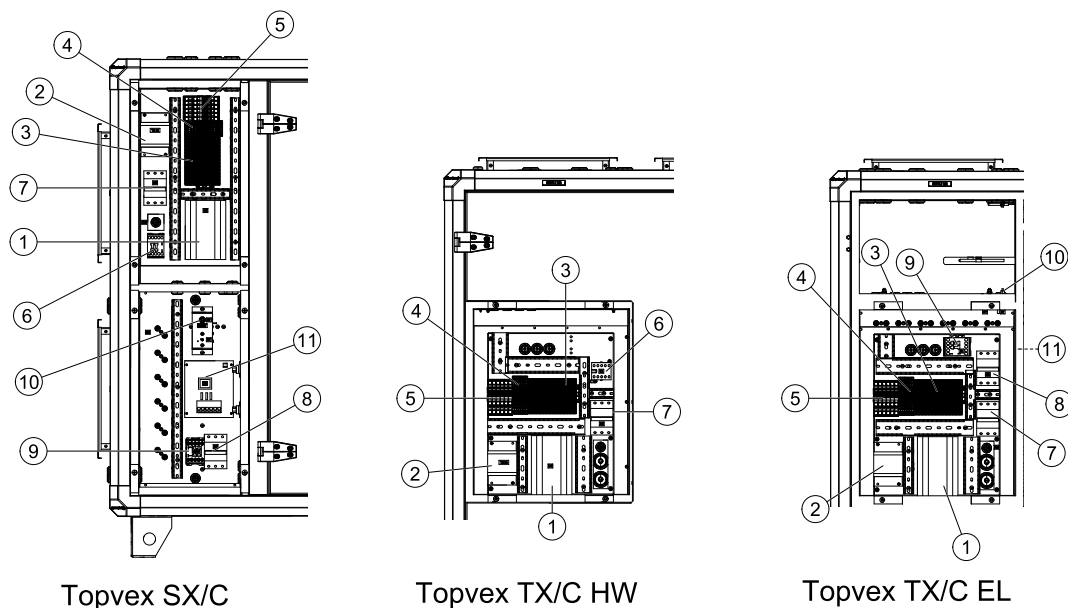

Рис. 2
In units with built in electrical heater the heating rods are located after the supply air fan in the airflow direction. The material is stainless steel. The electrical heating battery has both automatic and manual overheating protection. The manual overheat protection is reset by pushing the red button on top of the electrical heater frame (pos. 10 рисунок 2). The power demand of the electric heating coil is controlled by the main regulator, which controls the heat steplessly by a TTC triac control according to the selected control function that is set in the control panel.